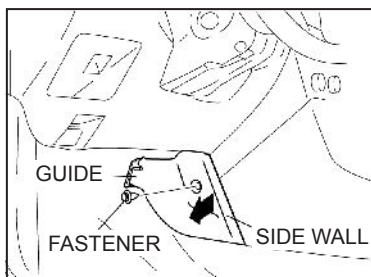

Fig. 1
7. Remove side wall fastener. (See Fig. 1)